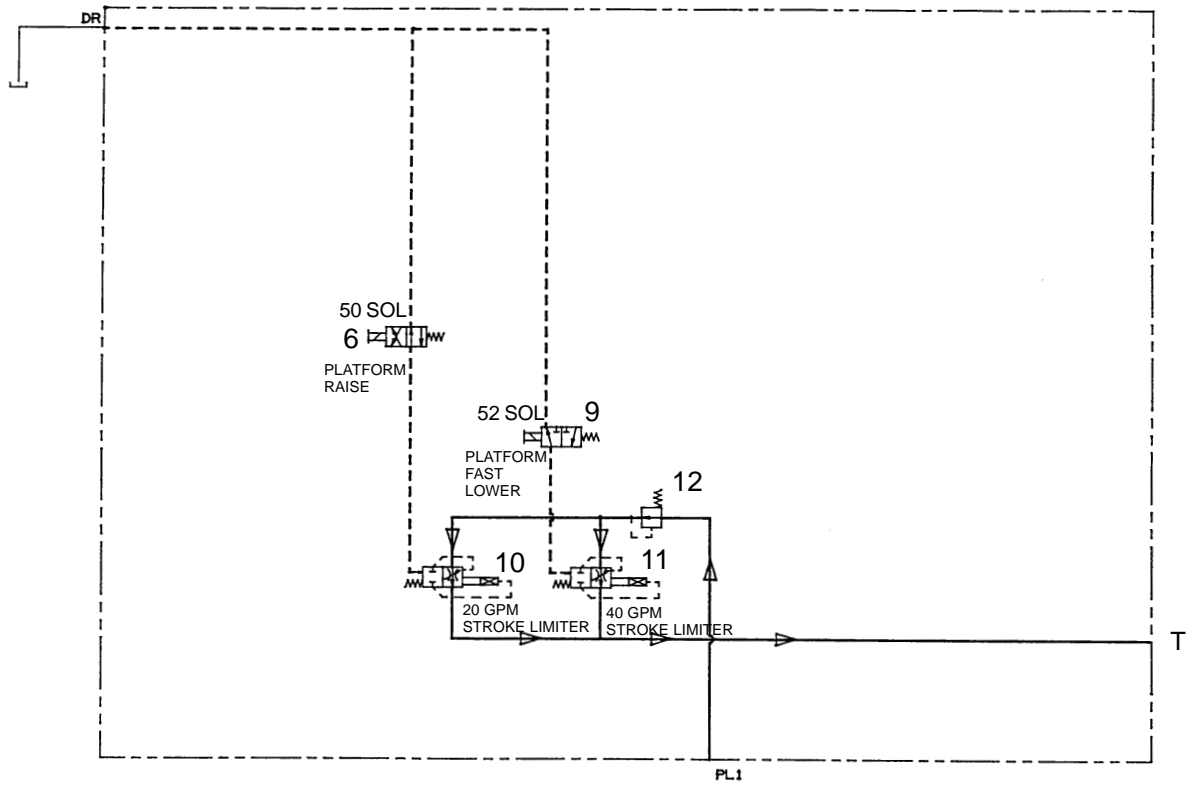

Figure 41
G. Propel & Lift Manifold Assembly, Hydraulic (Figure 24 thru Figure 41)